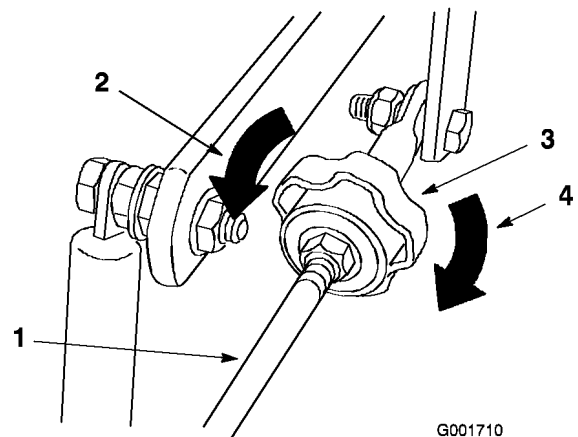

Figure 53
4. To make the machine go right, turn the knob towards the rightside of the machine. Refer to Figure 53.
5. To make the machine go left, turn the knob towards the leftside of the machine. Refer to Figure 53.